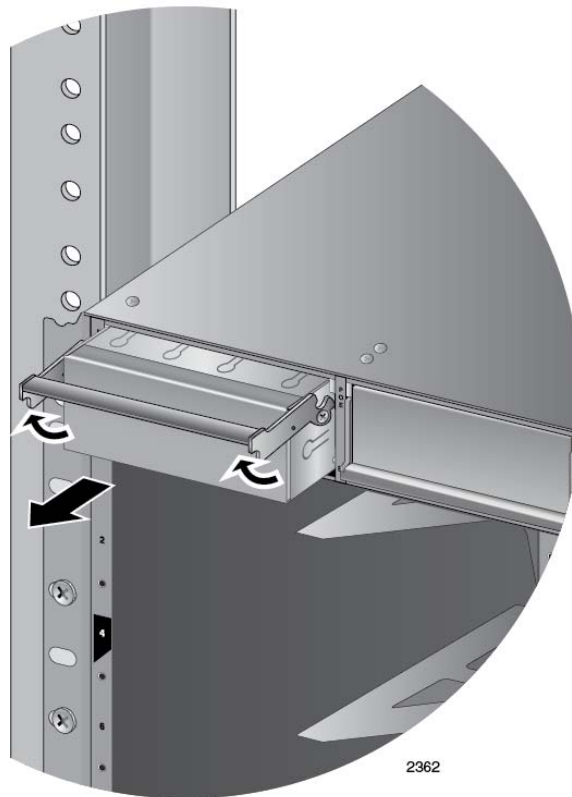

Figure 56. Removing the Blank Slot Cover from Power Supply Slot A
2. Raise the handle on the blank panel covering the selected slot and slide the panel from the chassis, as shown in Figure 56 on page 102.